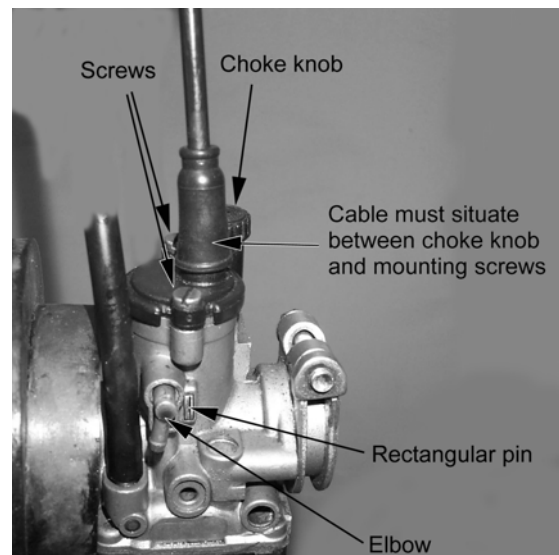

Figure 43 Proper carburetor top installation and location of rectangular slide indexing pin and vent elbows.
1. The motorcycle will only operate properly if the carburetor top is installed properly with the mounting screws, cable and choke knob oriented as shown in figure 43.